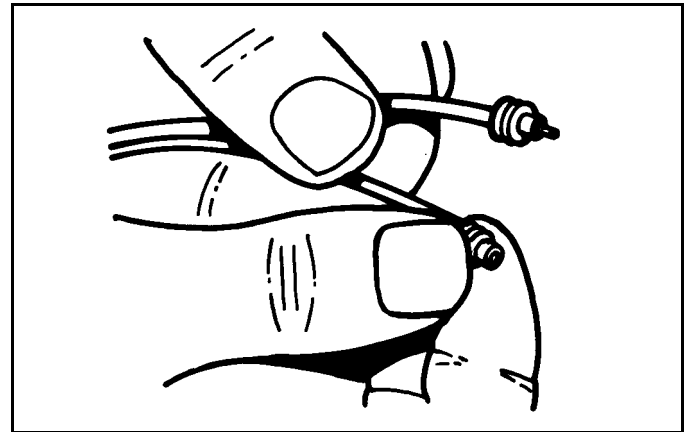

Figure 3-18
3. Install correct size cable seal on wire. (See Figure 3-18)
4. Strip insulation from wire to expose 6mm (1/4 in) and align cable seal with edge of insulation. (See Figure 3-18)